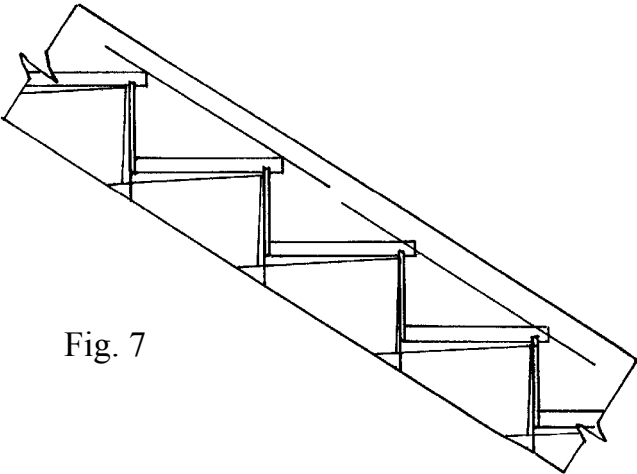

Fig. 7
15. (a) Complete Fig. 7 to indicate the following :-